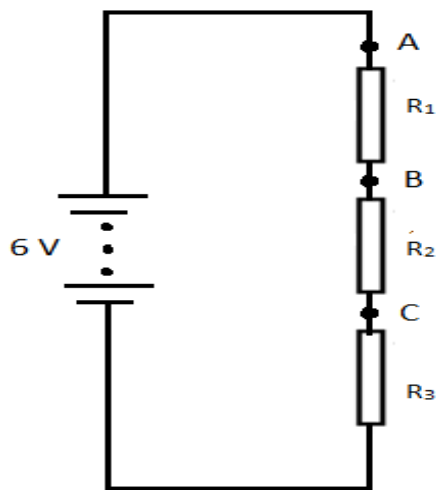

FIGURE 3.2: SERIES CONNECTED RESISTORS
- 3.8.5 Figure 3.2 shows three equal value resistors connected in series across a 6 V power supply.